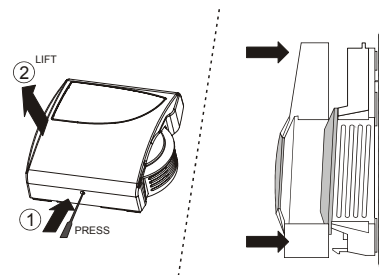

Fig. 2. Cover disassembly / assembly
The sub-base mounts separately for ease of installation; to disassemble the cover and the sub-base, see Fig. 2.
1. The cover of the wall module is fixed by a tab on the underside of the unit; to disassemble the cover and the sub-base, see Fig. 2.
4. Remount the cover as shown in Fig. 2 and make sure that the tab on the underside engages.